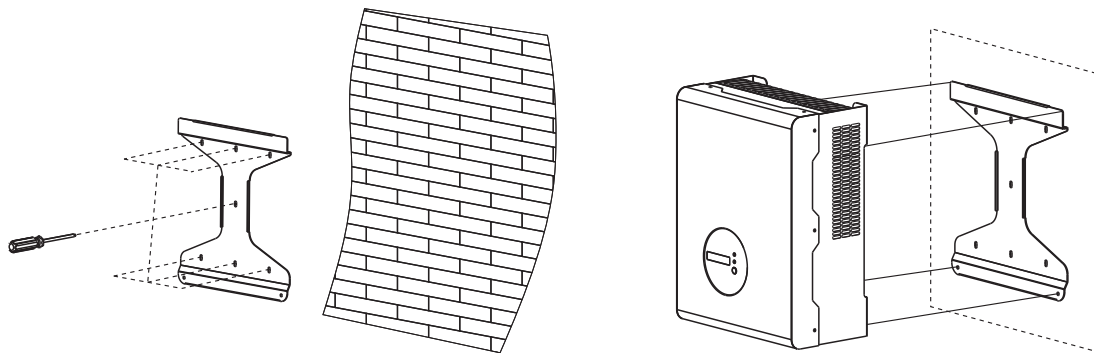

Figure 8 Bracket Installation
Step3: Use the bracket to install the inverter onto the narrow vertical panel (or wall). Put upper -part holes of the inverter onto the bracket, lower part onto the M5 screw rivet of the bracket (See figure 8).